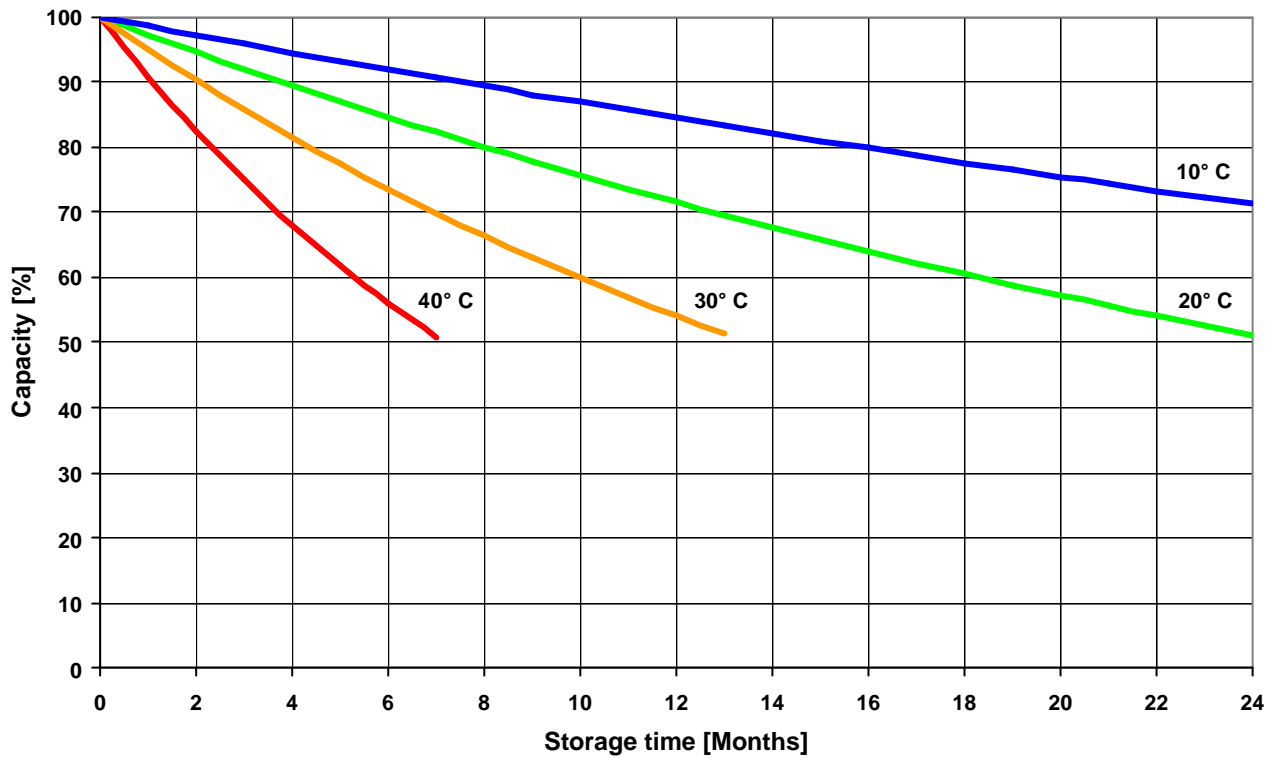

Fig. 1: Self-Discharge vs. Temperature (standard Gel-batteries)
- The temperature has an impact on the self-discharge rate (see fig. 1 and 2). Hence, it is important to store the batteries in a fully charged condition in a cool but frost-free room.
24 months for standard Gel-batteries (fig. 1) and